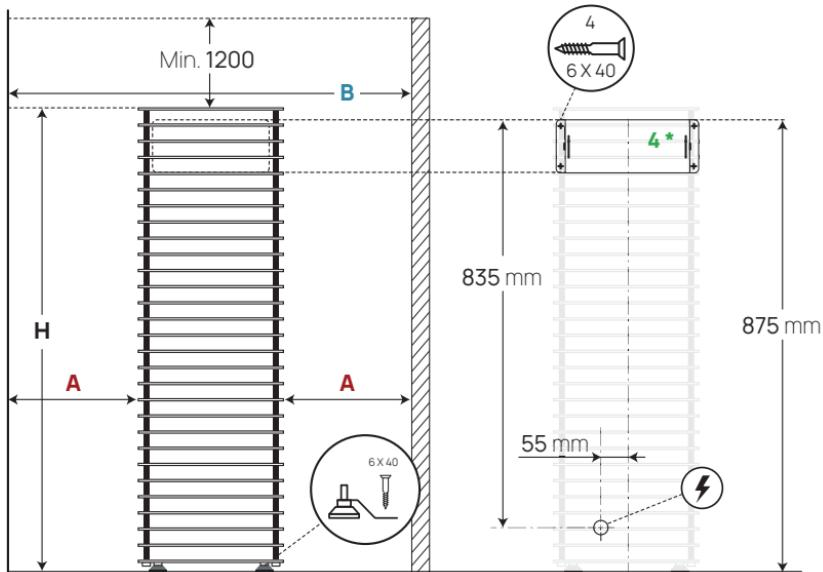

Figure 1. Positioning of the heater
- Are minimal safety distances ensured at the installation site of the heater? Minimal safety distances between the sauna room's ceiling and walls in view of installing the electric heater have been provided in **Table 1** and **Figure 1**.
- **HUUM CLIFF 6, 9 and 11** models are attached to the floor using the included brackets. Install the bracket to the heater leg as shown in Figure 1 and fix it with a screw corresponding to the construction of your floor (recommended min. 6 x 40mm).
- Attach **HUUM CLIFF Mini 4** to the wall of the sauna room using the wall mounting plate included in the package. See **Figure 1**.